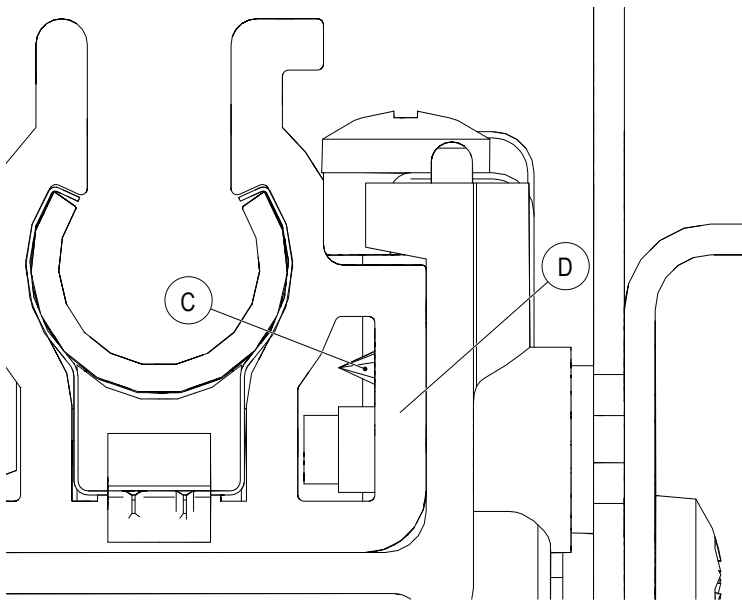

Fig. 71: Drill through first insulating profile wall for anchor point screw
6. Fasten the connecting cables (3) to the strain relief plate (1) using the screw connections (D) and their lock nuts (C) (see Fig. 71).